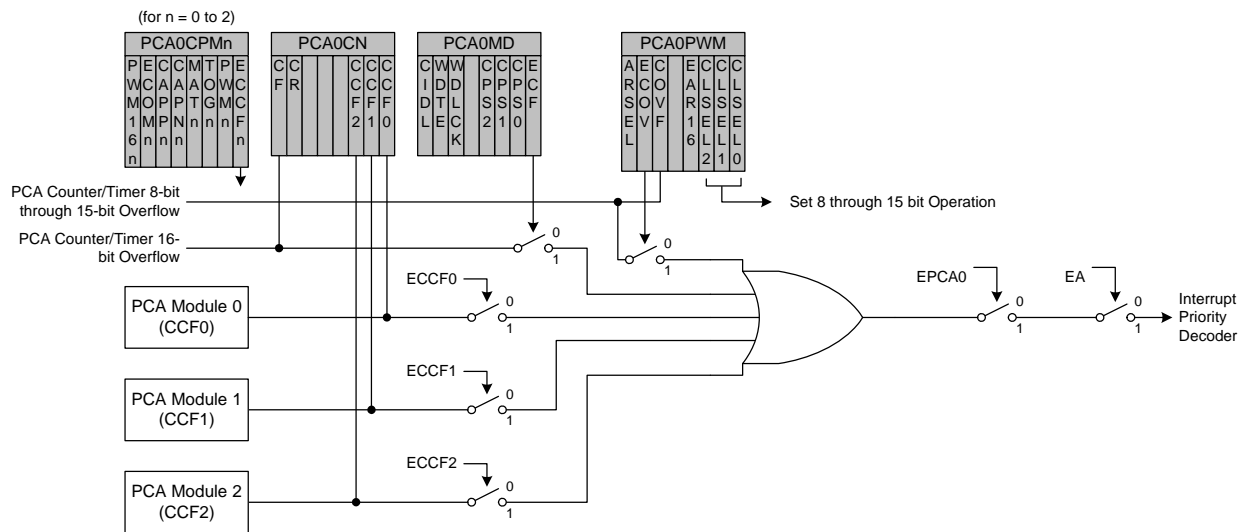

Figure 29.3. PCA Interrupt Block Diagram
Figure 29.3 shows a diagram of the PCA interrupt tree. There are five independent event flags that can be used to generate a PCA0 interrupt. They are: the main PCA counter overflow flag (CF), which is set upon a 16-bit overflow of the PCA0 counter, an intermediate overflow flag (COVF), which can be set on an overflow from the 8th through 15th bit of the PCA0 counter, and the individual flags for each PCA channel (CCF0, CCF1, and CCF2), which are set according to the operation mode of that module. These event flags are always set when the trigger condition occurs. Each of these flags can be individually selected to generate a PCA0 interrupt, using the corresponding interrupt enable flag (ECF for CF, ECOV for COVF, and ECCFn for each CCFn). PCA0 interrupts must be globally enabled before any individual interrupt sources are recognized by the processor. PCA0 interrupts are globally enabled by setting the EA bit in the IE register and the EPCA0 bit in the EIE1 register to logic 1.